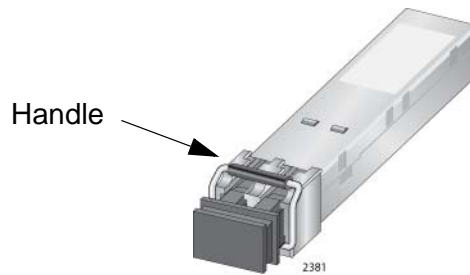

Figure 82. Handle on SFP+ Transceiver
2. Orient the SFP+ transceiver with the handle on top, as shown in Figure 82 on page 143.